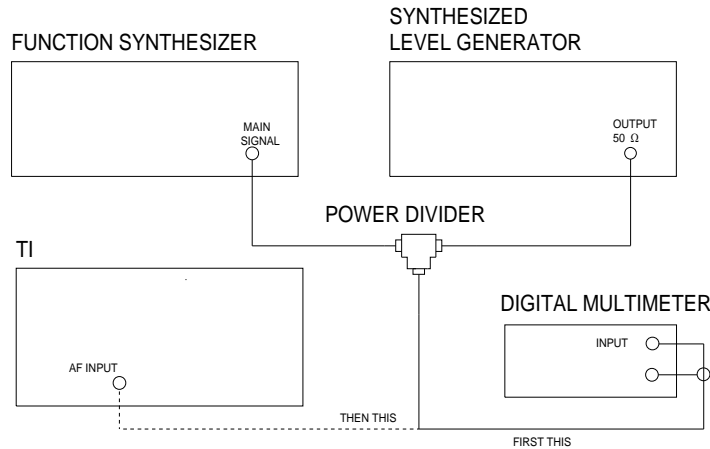

Figure 2.
4.3.2.1 Connect equipment as shown in Figure 2 with the Power Divider input connected to the Digital Multimeter input.
4.3.2.13 Set all outputs to minimum. Connect equipment as shown in Figure 2 with the Power Divider input connected to the Digital Multimeter input.